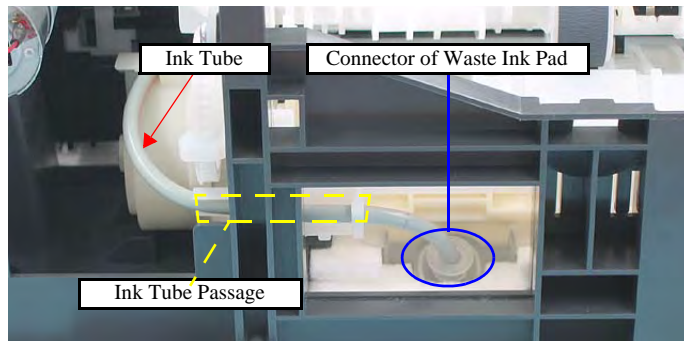

Figure 4-54. Removing Ink System (3)
2. Pass the Ink Tube through the Ink Tube passage, and insert the tube into the connector. (refer to Figure 4-54)